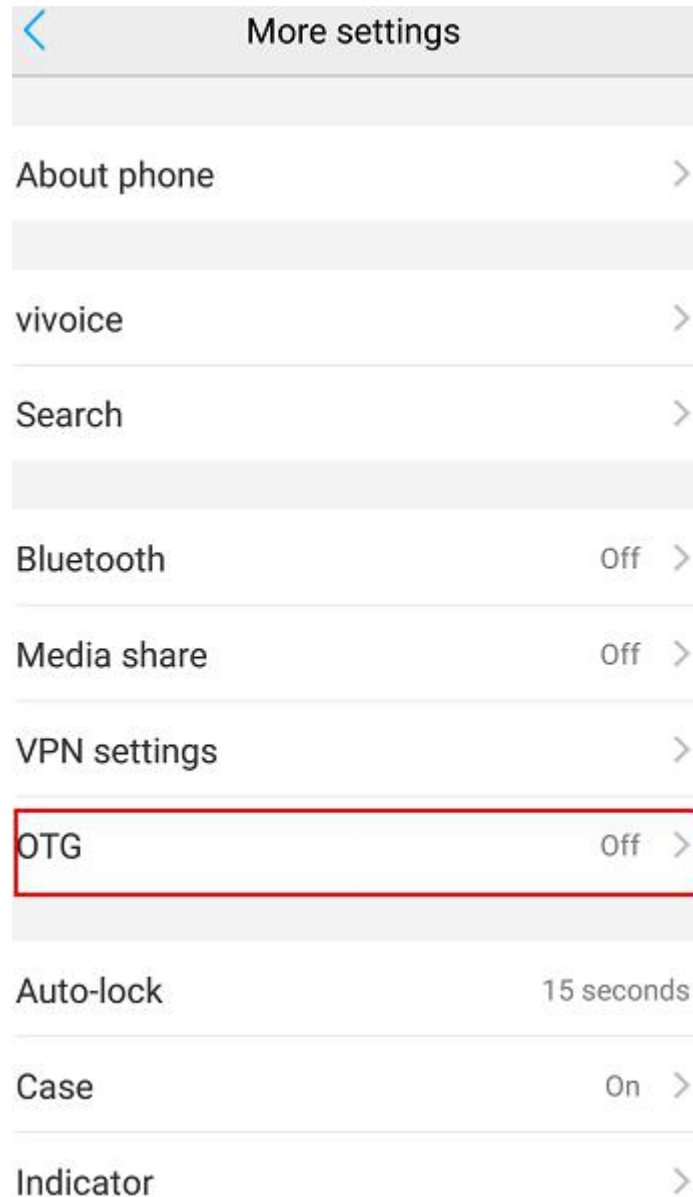

Figure 5-2-1
1) Open the OTG function from cellphone SETTINGS---SYSTEM---OTG(the default is Off thus it should be opened every time),see figure 5-2-1.